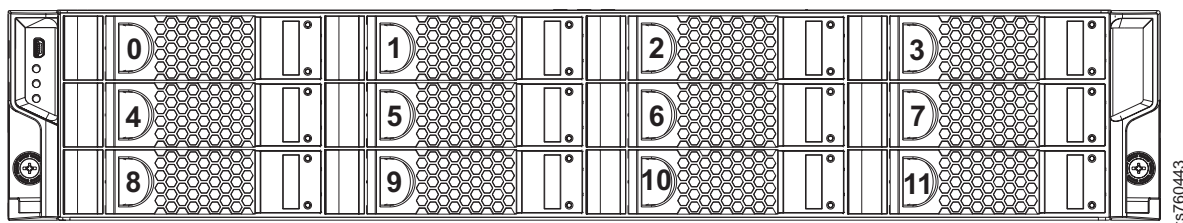

Figure 31. HDD position order
21. Refer to Figure 31 on page 53. Install each of the 12 1 TB HDD drives into their same corresponding locations in the new chassis. “Removing and replacing the TS7610 or TS7620 ProtecTIER V3.3.6.1 fibre channel adapter” on page 71.